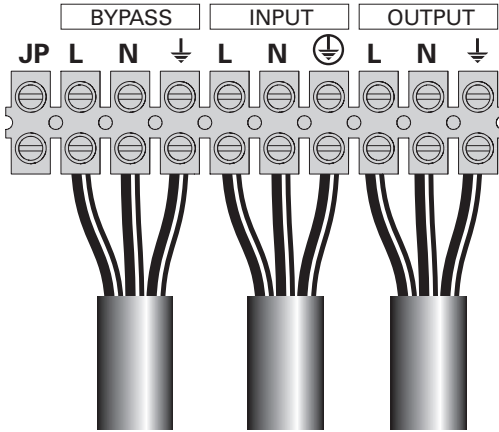

Figure 18.
- 1 - Remove the metal jumper (*see figure 18*).